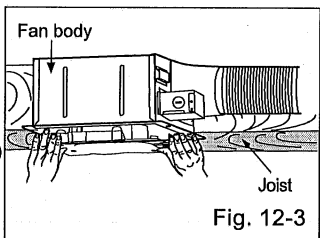

Fig. 12-3
7. Insert the blower into the fan body. (Fig. 12-3)